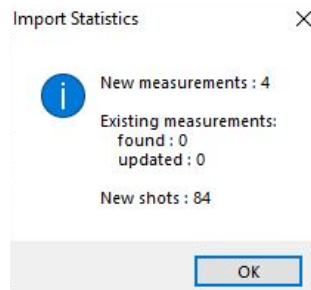

Figure 36. Import Statistics pop-up window.
- The Import Statistics window will pop up stating the number of new measurements and the new shots to import from the files selected (as shown in Figure 36).